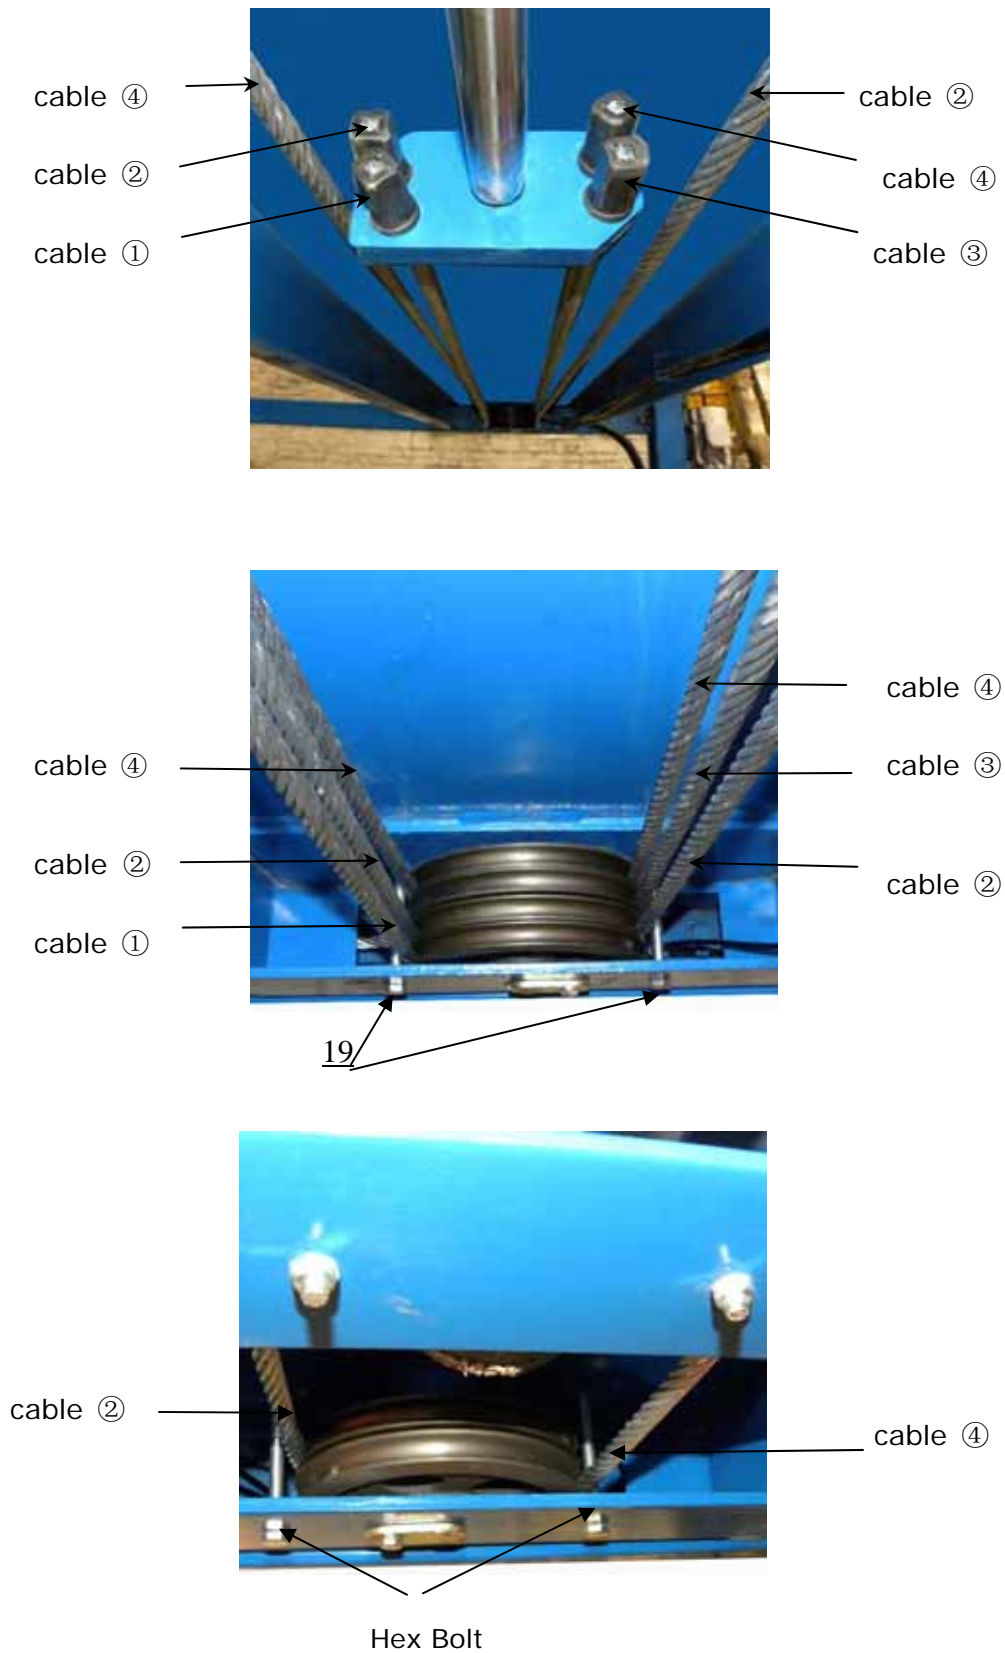

Fig. 22
1. After routing the cables through the pulleys, attach the cables to the connecting plate(See Fig. 22).